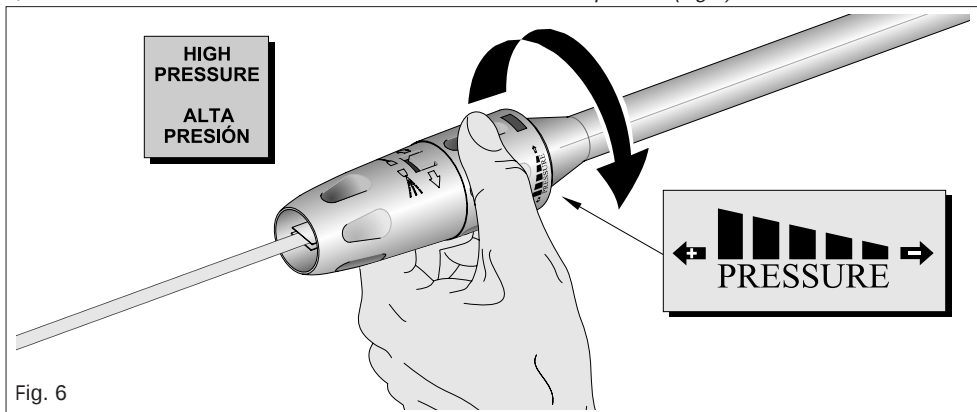

Fig. 6
The high pressure nozzle position is intended for cleaning. When high pressure is required, completely turn grey collar as shown in fig. 6.
**NOTE:** Make sure the grey collar is completely rotated to lock the nozzle in the high pressure position. (Fig. 6)
**NOTA:** Asegurarse de que se haya hecho girar la abrazadera grisá para cerrar la boquilla en la posición de alta presión. (Fig.6)